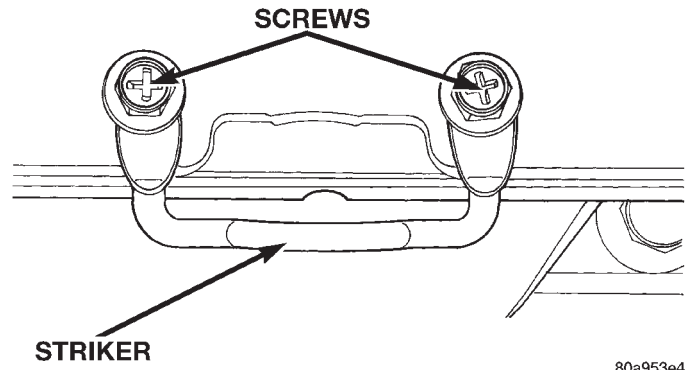

Fig. 22 Glove Box Latch Striker Remove/Install
(1) Disconnect and isolate the battery negative cable.
(2) Open the glove box.
(3) Remove the two screws that secure the glove box latch striker to the instrument panel glove box opening upper reinforcement (Fig. 22).
(4) Remove the glove box latch striker from the glove box opening upper reinforcement.
(5) Reverse the removal procedures to install. Tighten the mounting screws to 2.2 N·m (20 in. lbs.).